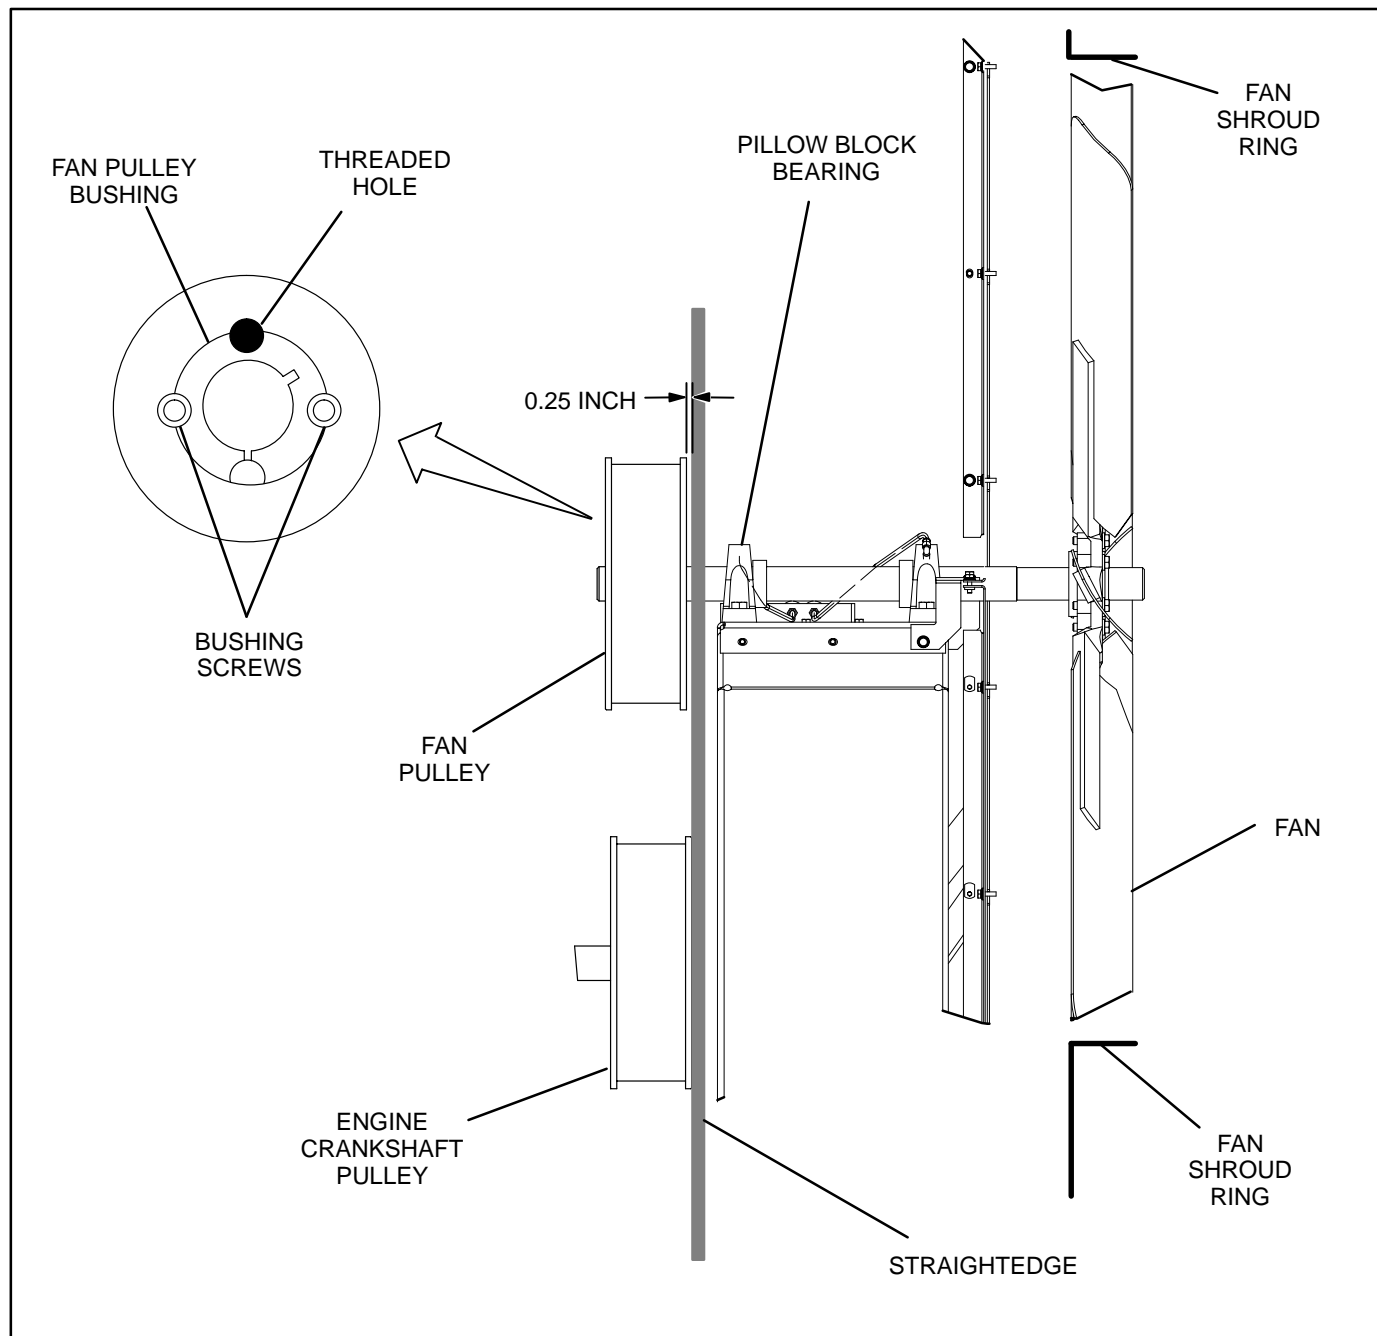

FIGURE 9-5. FAN DRIVE PULLEY ALIGNMENT
1. Use a long straightedge (not supplied) to align the crankshaft pulley to the fan drive pulley. The straightedge should be flat against the vertical surface of the engine pulley near the center. See Figure 9-5. The fan drive pulley should be 0.25" nominal toward engine from straight edge.
- C. Remove the two screws from the fan pulley bushing. Install one of these screws into the threaded hole located between the two screws that were removed. (Figure 9-5). Tighten the screw to separate bushing from pulley and remove the screw.